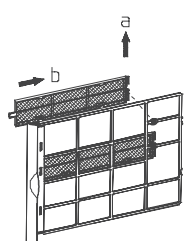

Fig. 19
- Remove the 2 purifying filter frames from the main filter (See Figure 19).
### **PURIFICATION FILTER REPLACEMENT (See Figures 19, 20, 21)**
- Remove the two purifying filter frames from the main filter (See Figure 19).